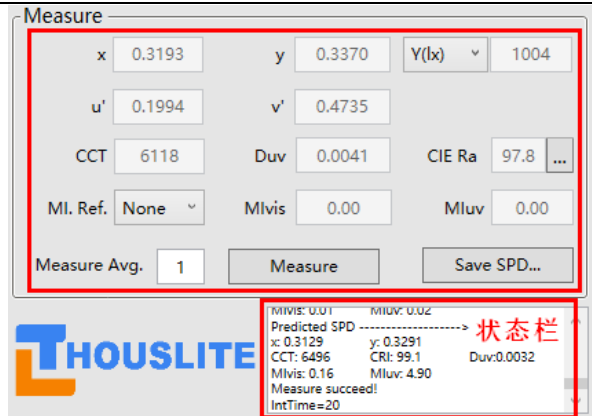

Fig. 5.3 Measured result after first measurement
- 7) Press *Measure*, the measured result is shown in Fig. 5.3, CCT=6118K, CIE Ra=97.8, which is relatively far from predict performance;